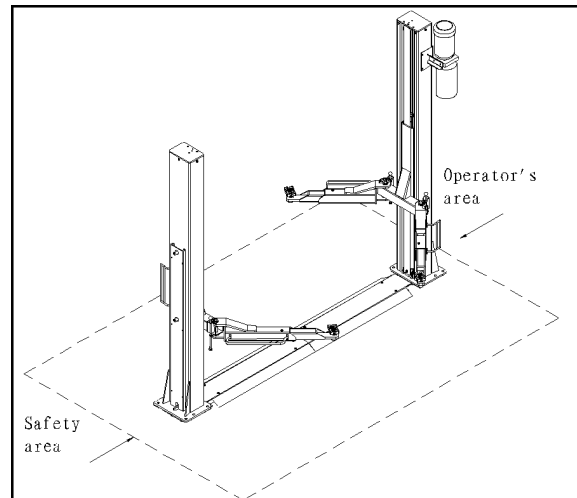

Fig. 8 Working Area
During lift and descent movements, the operator must remain in the command station as defined in **Figure 8**. The presence of persons inside the danger zone indicated in the same figure is strictly prohibited. The presence of persons beneath the vehicle during operations is permitted only when the vehicle is parked in the elevated position.
- ◆ People rest inside the safety area while the vehicle raising. **(Fig. 8)**